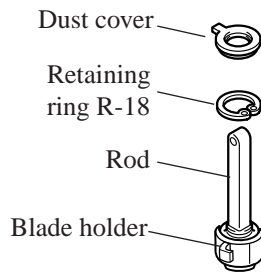

Fig. 12
2. Disassemble dust cover, and then disassemble retaining ring R-18. as illustrated in Fig. 12.